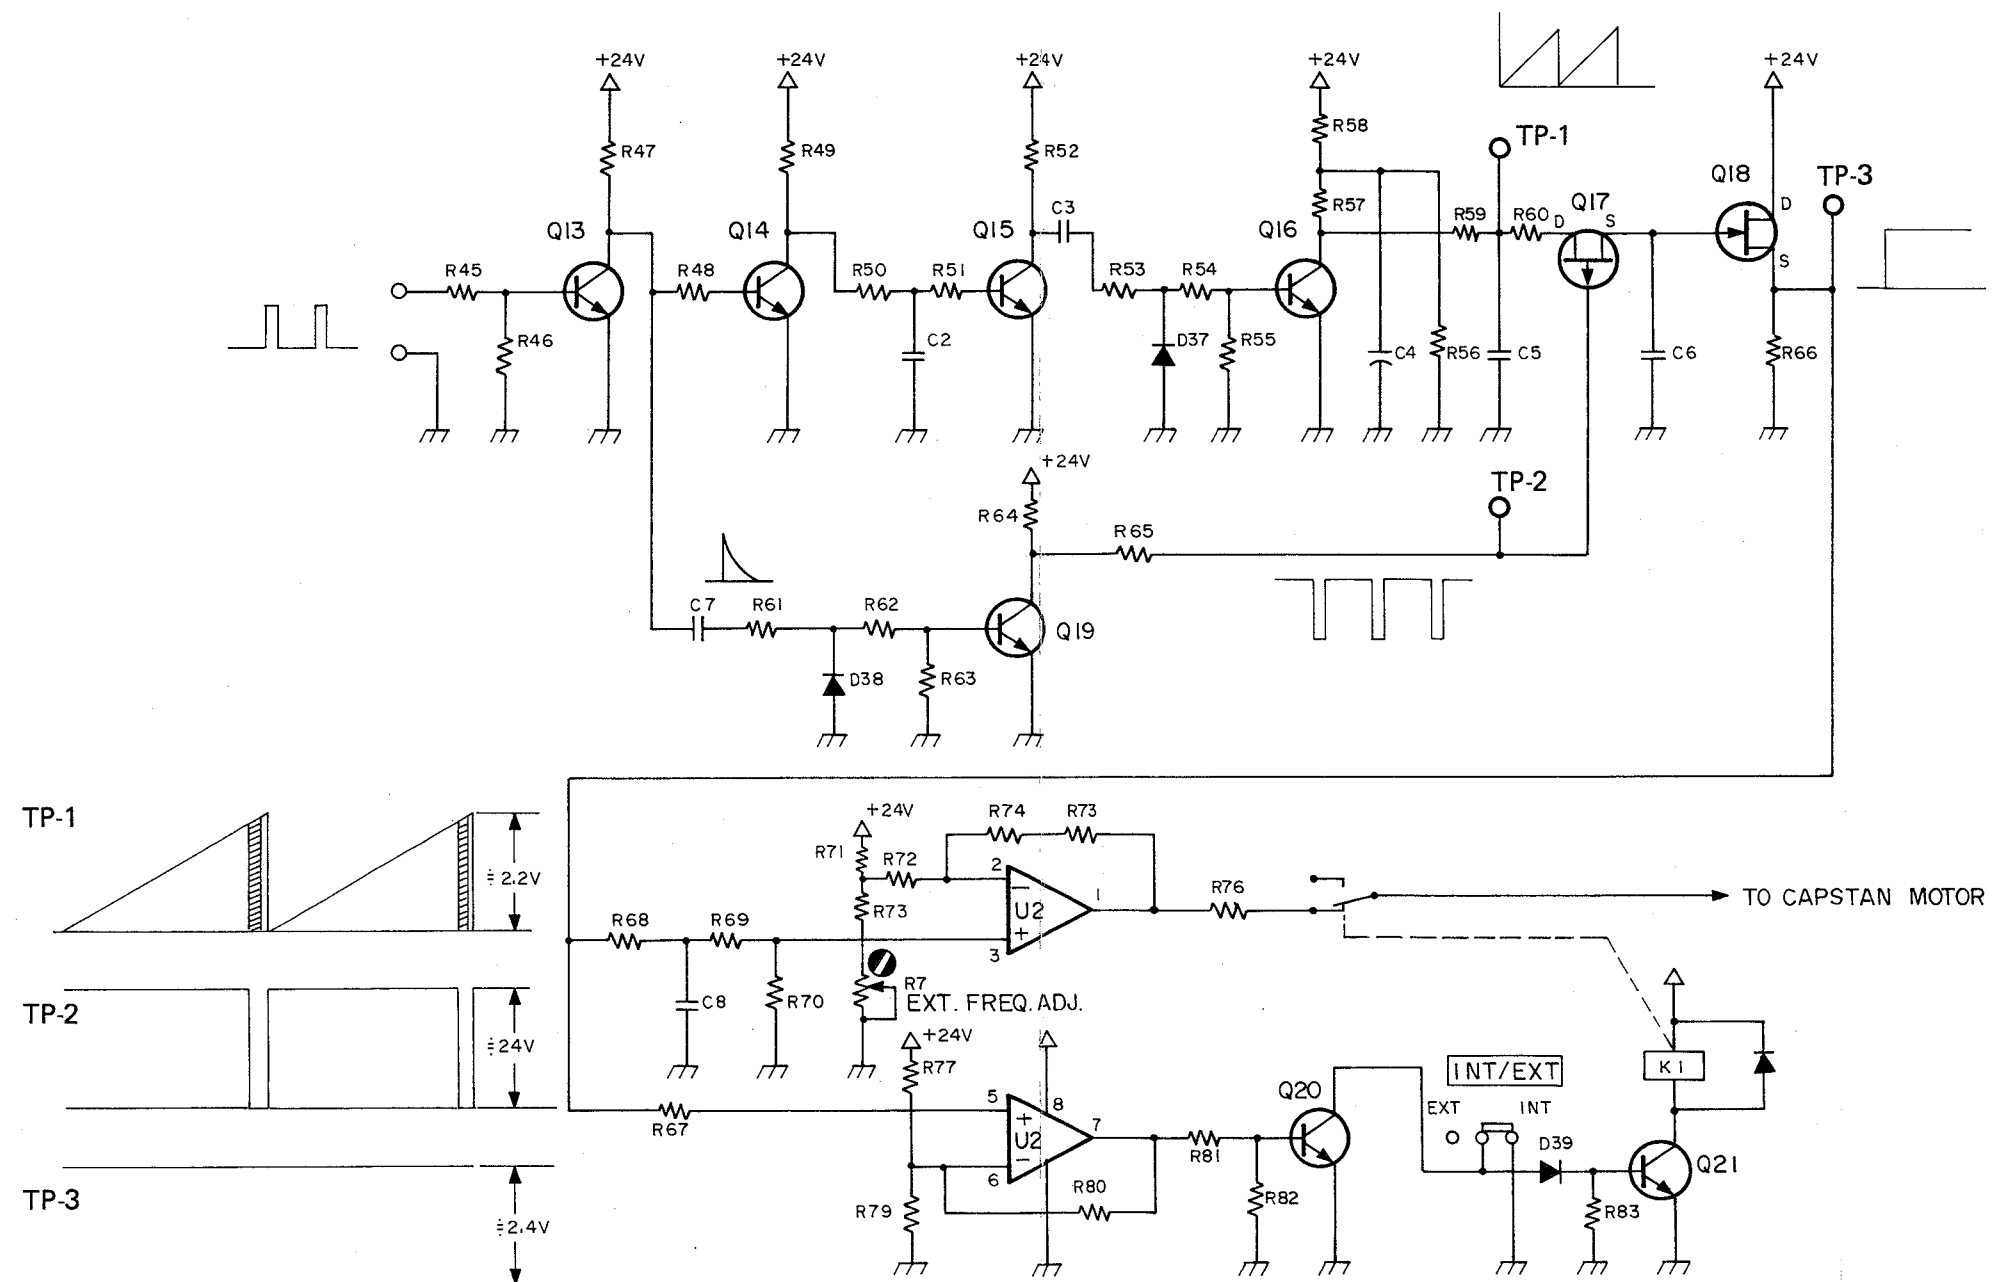

Fig. 5-18. External Pitch Control Circuit
1. The synchronous 9.6 kHz pulse (for nominal tape speed) is first applied to Q13 base and amplified/inverted, and then applied to both Q19 and Q14 bases. However, as each pulse applied to Q19 is differentiated by C7 before it is applied to Q19, Q19 collector develops a very narrow L level pulse with the same period as that of input pulse, as shown in Fig. 5-18 (TP-2), and used as a sampling pulse.
2. On the other hand, each pulse applied to Q14 base is processed as they pass through Q14, Q15, and Q16 to produce an integrated signal across the integrating capacitor C5, (TP-1), as shown in Fig. 5-18 (TP-1). While, the sampling pulse is being applied to Q17 gate, Q17 is turned on during a short sampling (L level) time period. Consequently, only the hatched area of the integrated sawtooth signal is sampled and charged to C6. Since the input and output impedance of FETs Q18 and Q19 are respectively very high, the charges stored in C6 are held without any change until the next sampled pulse is input, thus Q18 source develops an output voltage proportional to the charged voltage held in C6. Since the amplitude of the integrated sawtooth voltage to be sampled is inversely proportional to the frequency of input synchronous signal, the control voltage developed at Q18 source will increase as the frequency of the synchronous signal decreases. The thus obtained DC control signal, which is inversely proportional to the synchronous signal frequency, is applied to pin 3 of the U2 comparator and compared with the reference signal being applied to pin 2 of the compara-